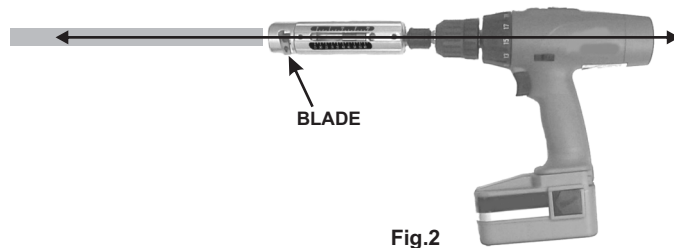

Fig.2
Step 2. (Fig. 2) To ensure consistent and accurate removal of covering, the cable must be as straight as possible. Slide the tool onto the cable until the cable end is up against the stripping blade. Ensure that the tool is aligned properly with the cable axis.